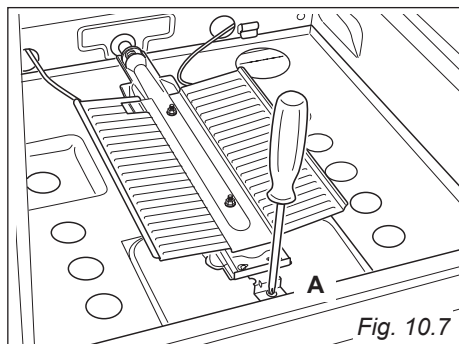

Fig. 10.7
- Unscrew and remove the burner securing screw “A” (fig. 10.7).